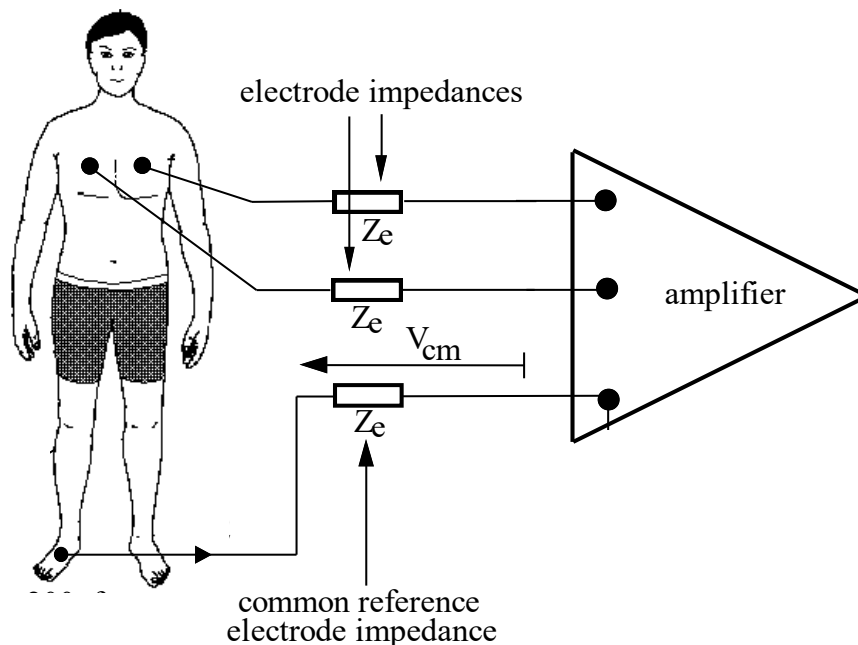

Fig. 1 Measurement of the Electrocardiogram
**Introduction:** The EE5105 laboratory project will undertake the design of an instrumentation amplifier which will serve in the measurement of the human electrocardiogram, generally known as the ECG signal. The amplifier is intended to provide a reasonable quality of output signal that could be used for clinical diagnostic purposes as shown in Fig.1. It will be ac-coupled to eliminate dc polarisation voltages present in the electrodes, and must have adequate bandwidth to ensure that distortion of the wanted ECG signal is minimised. A suitable amplifier will be designed and constructed on breadboard and then its performance tested and verified using standard laboratory test equipment. A simulated/synthesized ECG signal will also be available from a signal generator. The facilities to superimpose noise and mains interference onto this signal will also be available. This will allow the amplifier's ability to remove these unwanted components to be assessed. The amplifier's overall compliance with the performance specification given will be tested and verified as part of the project.